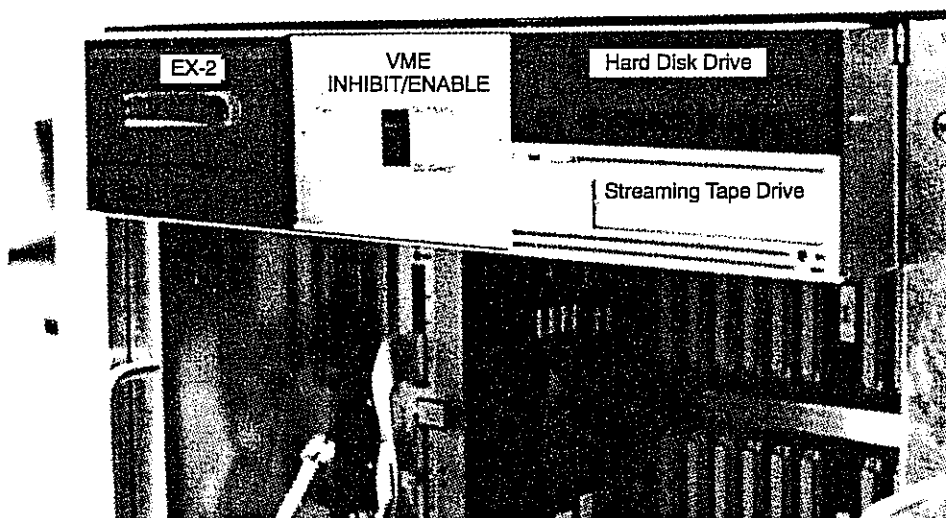

Figure 7-37. SCSI Subassembly
7. Remove the VME INHIBIT/ENABLE button cover on the VME card cage to access the inner screws, but leave the switch wires connected. Refer to Figure 7-37 while performing the next three subprocedures.